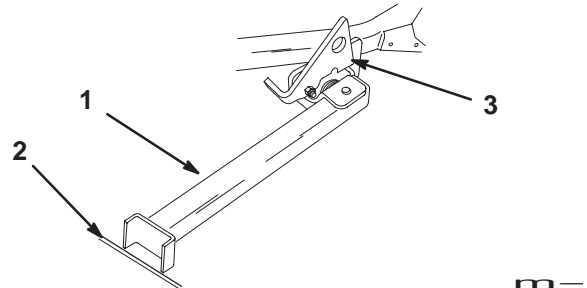

Figure 27
4. Set foot of stand on ground and rest latch on pivot tab (Fig. 27).
Note: For best results, place foot of stand into seams in sidewalks or into turf (Fig. 27).